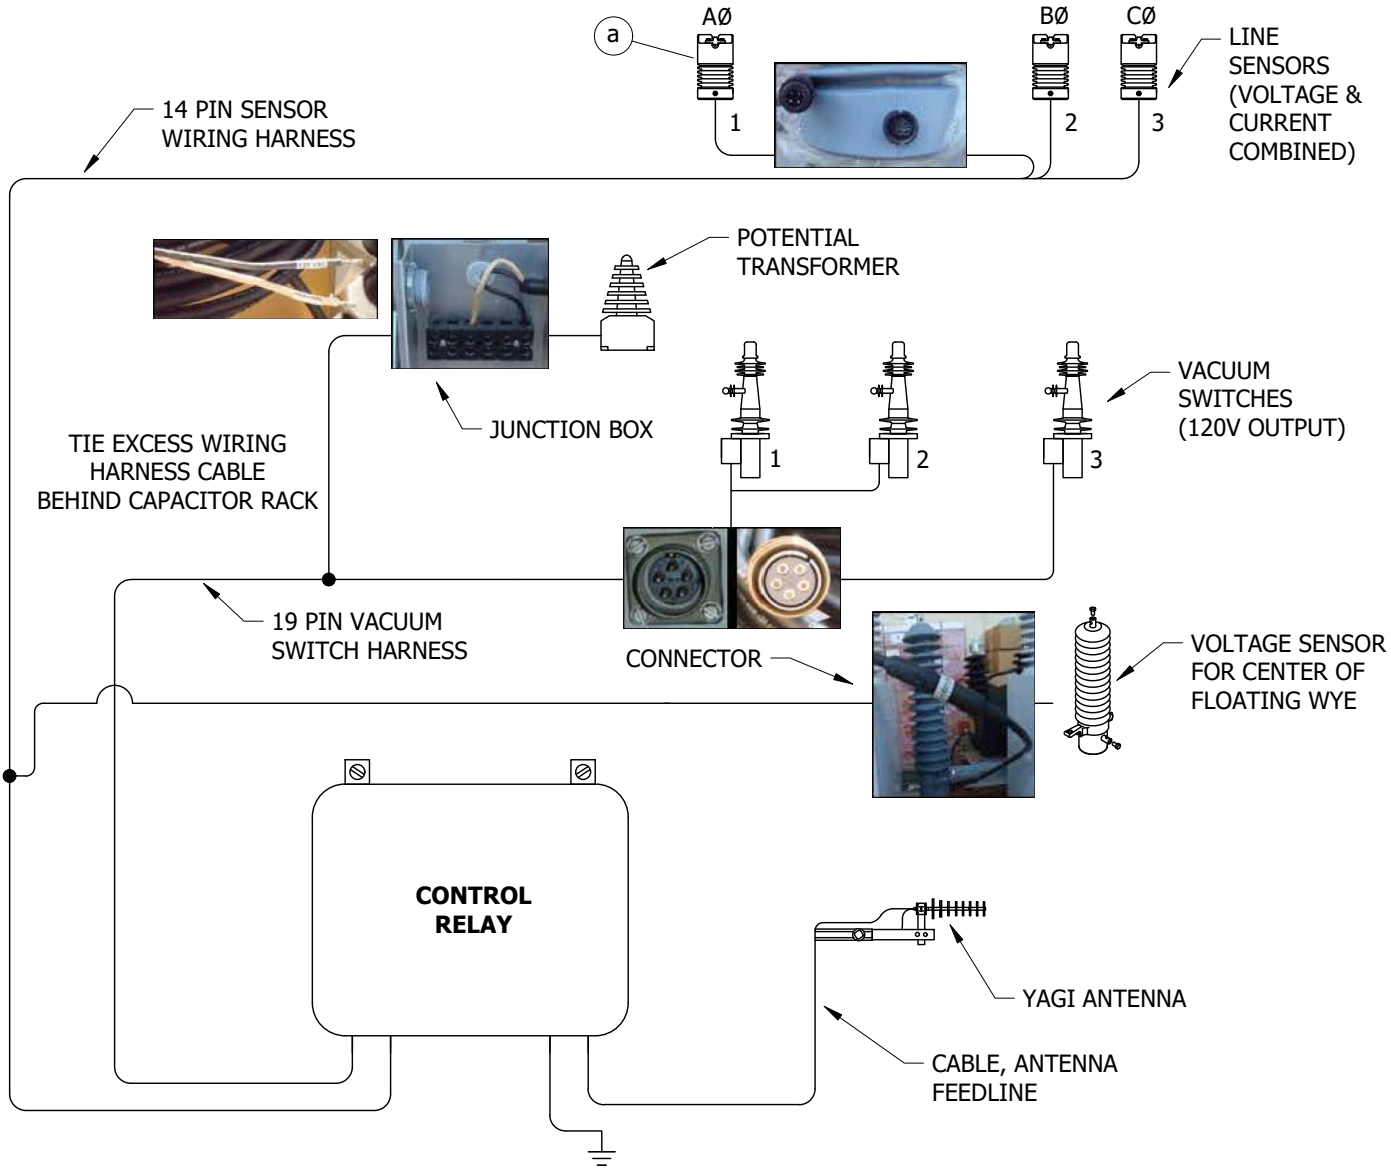

FIGURE 1
- i FOR CONTINUATION OF CONDUIT AND CONTROL CABLE; SEE FIGURE 1 ON SHEET 1 AND WIRING DIAGRAM ON SHEET 4.